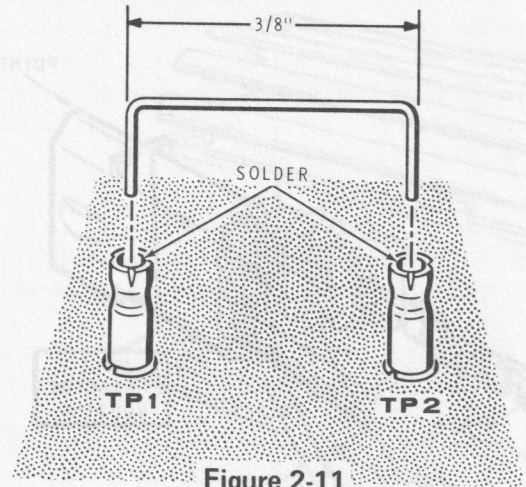

Figure 2-11
- ( ) Refer to Figure 2-11 and cut a capacitor lead (laid aside earlier) to 5/8". Bend the ends down to form a U-shaped connector. Place the ends in connector pins TP1 (S-1) and TP2 (S-1).